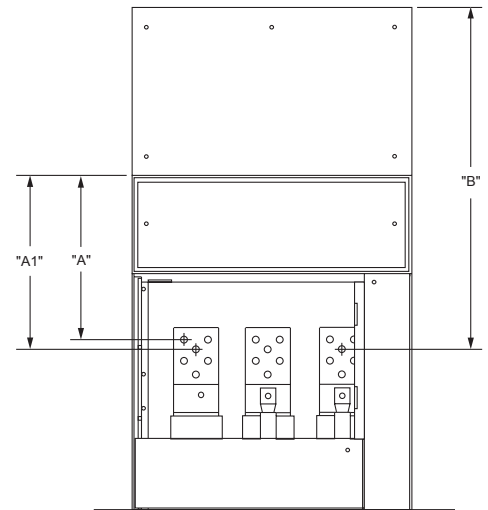

FIGURE 3
[3] When cable size selected limits the user to two (2) single lugs per phase, Dimension A is measured from center set of holes in lug pad. See Figure 3 on page 68.
[2] When cable size selected limits the user to two (2) single lugs per phase, Dimension A is measured from center set of holes in lug pad. See Figure 3 on page 68.